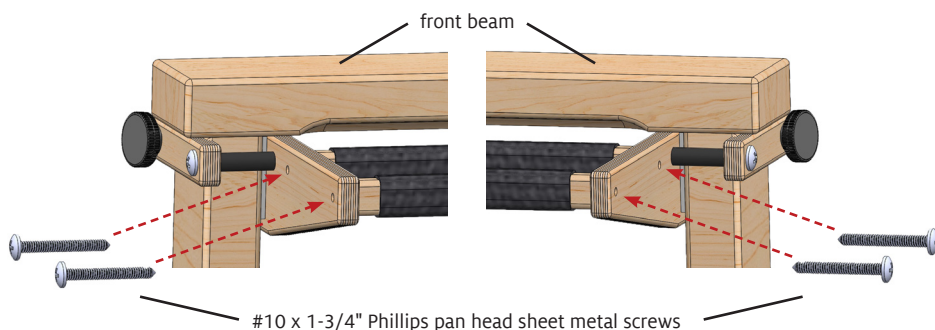

FIGURE 5: ATTACH CROSS RODS
9. Set the cloth sleeve in place between the rod supports, as shown in Figure 5 on the next page. Have a helper hold it in position, or rest it on your loom bench or small table.